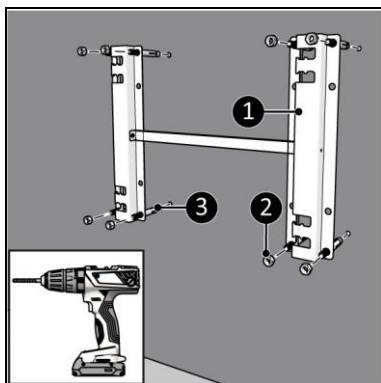

Figure 10
1. Place the bracket against the wall, with the bracket openings at the left and mark the eight holes (Figure 10).
3. Place the anchor bolts (Figure 10, pos. 3).
4. Tighten the wall bracket (Figure 10, pos. 1) to the wall with the eight nuts (Figure 10, pos. 2).